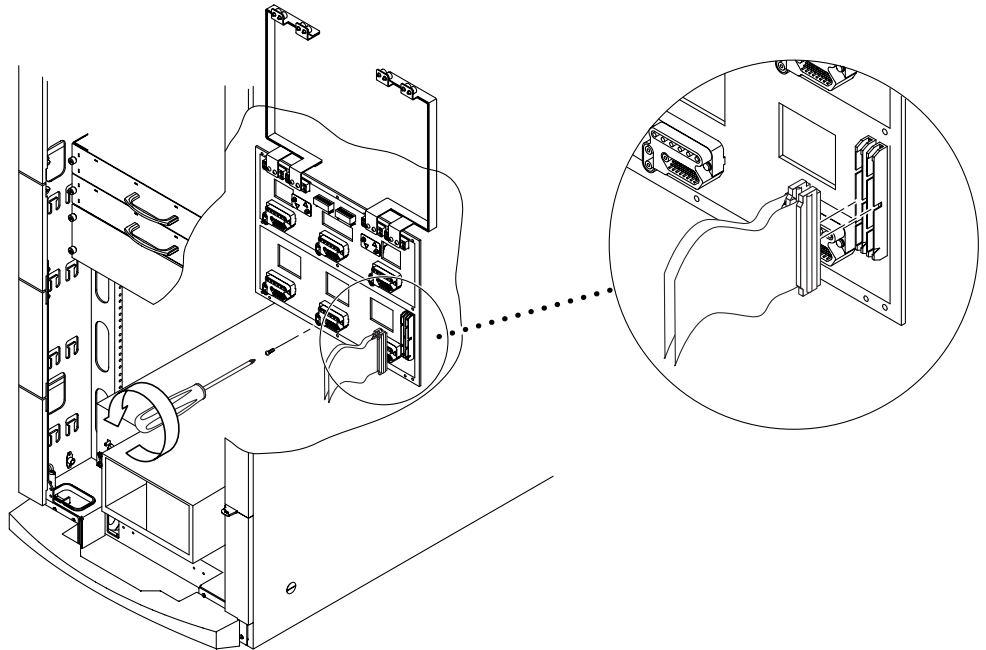

FIGURE 12-11 Centerplane Cables—Sun Fire 6800 System
- c. Disconnect the power cable that connects the power centerplane to the fan centerplane (FIGURE 12-11).
3. Connect the centerplane cables as follows (FIGURE 12-11 on page 12-9):